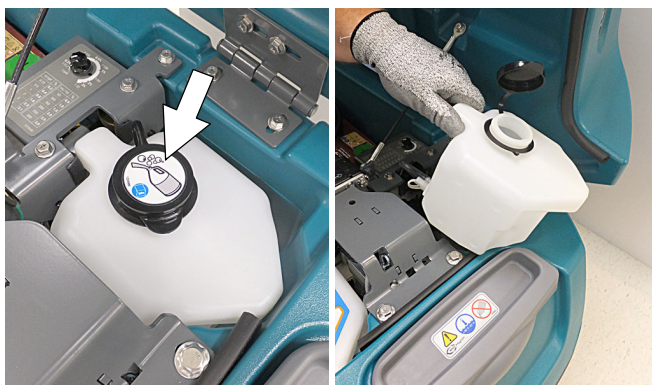

FIG. 137
3. Pour 1 gallon / 4 liters of propylene glycol based recreational vehicle (RV) antifreeze into the solution tank.
Models equipped with optional Severe Environment detergent tank - Lift tank from machine and empty the detergent from tank (Figure 137). Return tank. Pour a 1/4 gallon / 1 liter of propylene glycol based recreational vehicle (RV) antifreeze into the detergent tank.